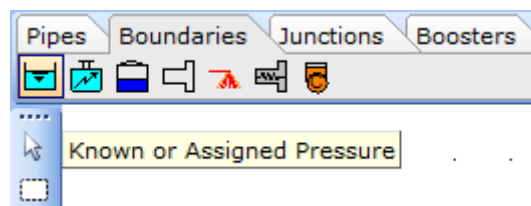

Figure 3.1.1: Known Pressure Node.
Step 1: The first step is to consider the boundary nodes to use for the system. Since we know the inlet and outlet pressure, we can use the *Known or Assigned Pressure* node available from the *Boundaries* tab on the *Component Palette* (Fig 3.1.1).